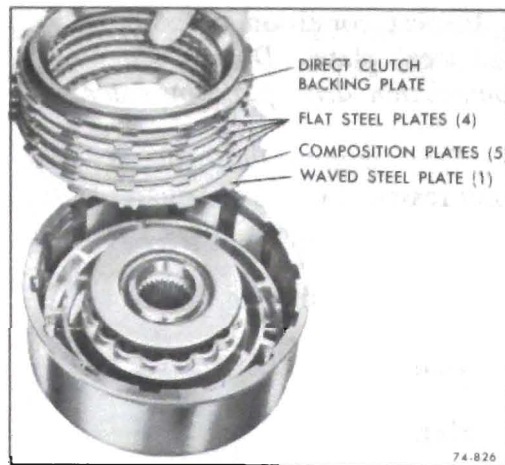

Figure 76-673
4. Remove direct clutch backing plate, five (5) composition faced and five (5) steel clutch plates. See Figure 76-673.